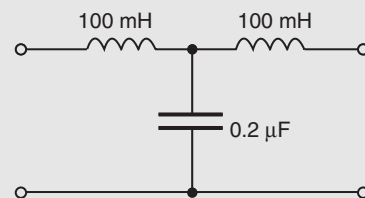

Figure 17.8
**Problem 1.** Determine the cut-off frequency and the nominal impedance for the low-pass T-connected section shown in Fig. 17.8.
Comparing Fig. 17.8 with the low-pass section of Fig. 17.7(a), shows that: